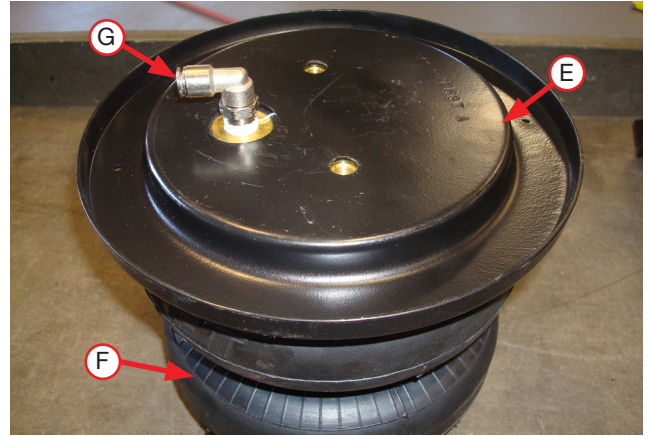

Fig. 9
1. Place the roll plates (E) on the air springs (F). Install the 90-degree swivel elbow fitting (G) onto the air springs (Fig. 9). Tighten the air fittings finger-tight plus 1 1/2 turns.